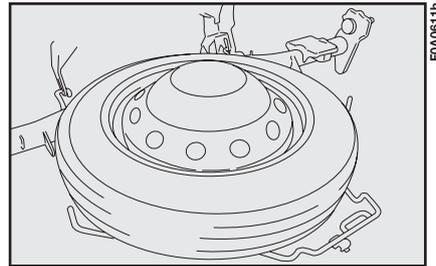

fig. 14b
– When fitting the space-saver spare wheel back onto container, fit the spacer tab on the outer side of the rim, then position the space-saver spare wheel with the outer side of the rim **fig. 14b** facing upwards